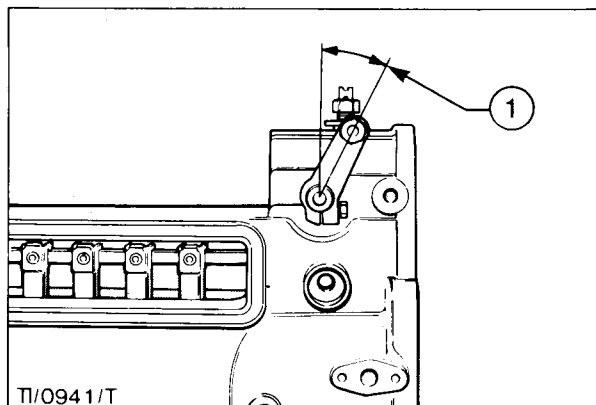

Fig. 70 - Stop Control Lever Initial Setting
16. Rotate the stop control shaft clockwise until the bellcrank lever is at the end of its travel with the control rod in the stop position. Set the initial position of the external stop control lever on the shaft so that the lever sits approximately 30° forward from the vertical. Tighten the pinch bolt (Fig. 70).